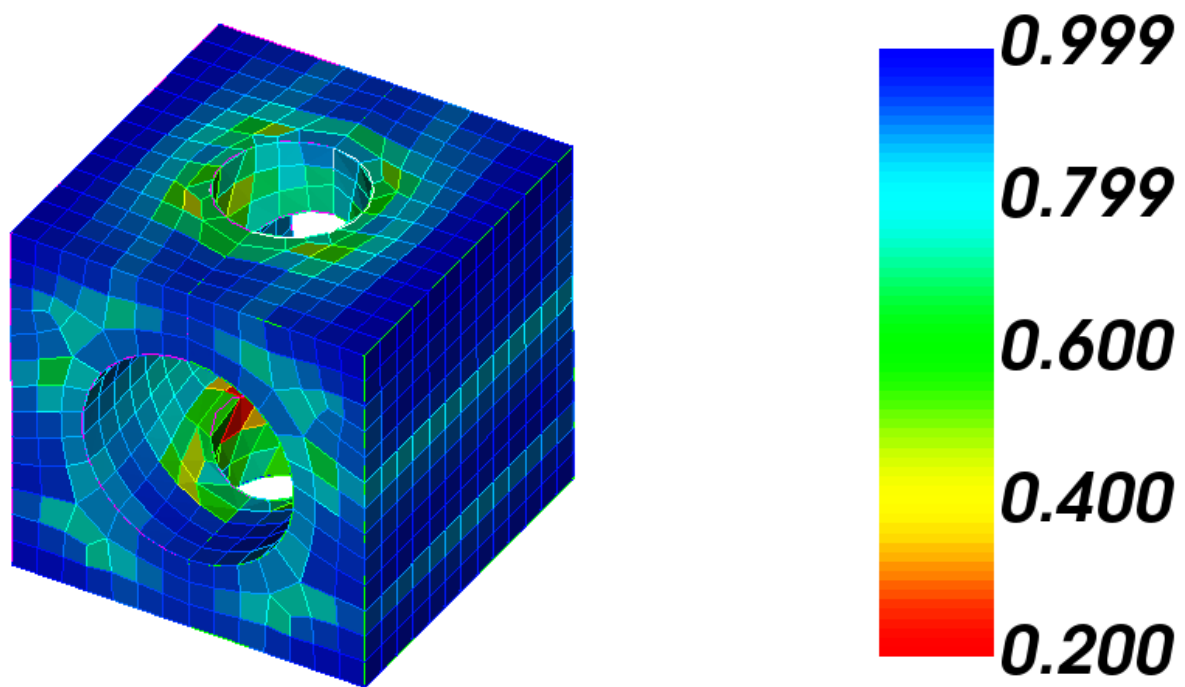

Figure 5: Quality of final mesh
Step 4: Final step. Figure 5 shows the quality of the final mesh. The command is: